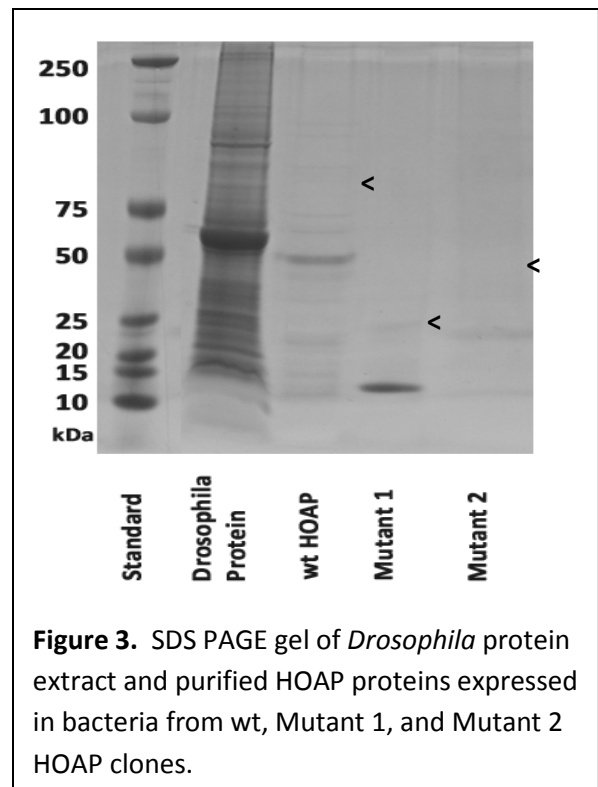

Figure 3. SDS PAGE gel of *Drosophila* protein extract and purified HOAP proteins expressed in bacteria from wt, Mutant 1, and Mutant 2 HOAP clones.
5. SDS polyacrylamide electrophoresis was used to determine of the sizes of the wild type and Mutant 1 and 2 HOAP proteins expressed from these plasmids in bacteria (Shown in Figure 3). Using the Protein Standards as a guide, estimate the sizes of the HOAP protein expressed from each plasmid (indicated by <).